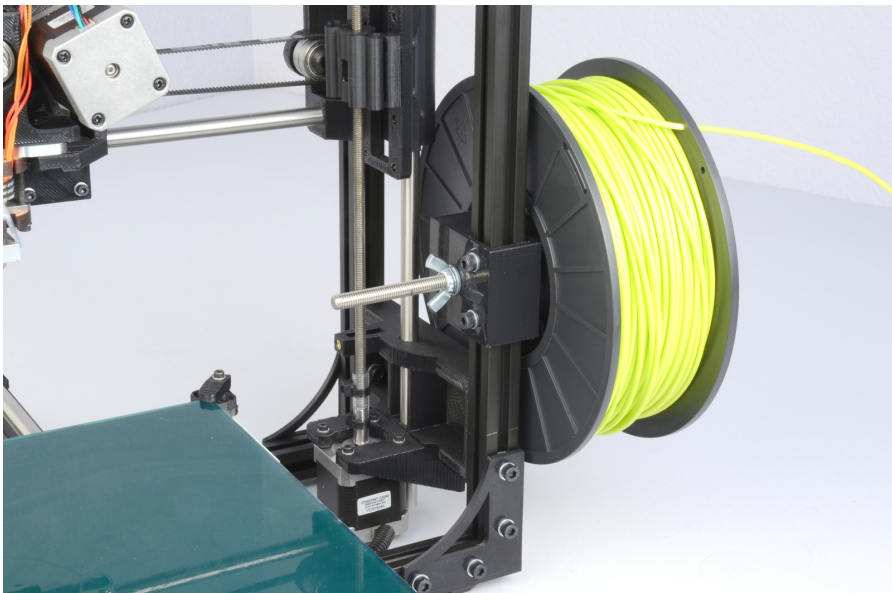

Figure 2.3: Filament spool mount back
3. Slide the washer onto the end of the spindle on the back of the reel mount. Thread the wing nut onto the spindle end and loosely up against the nut on the back of the reel mount (fig. 2.3, page 35). While